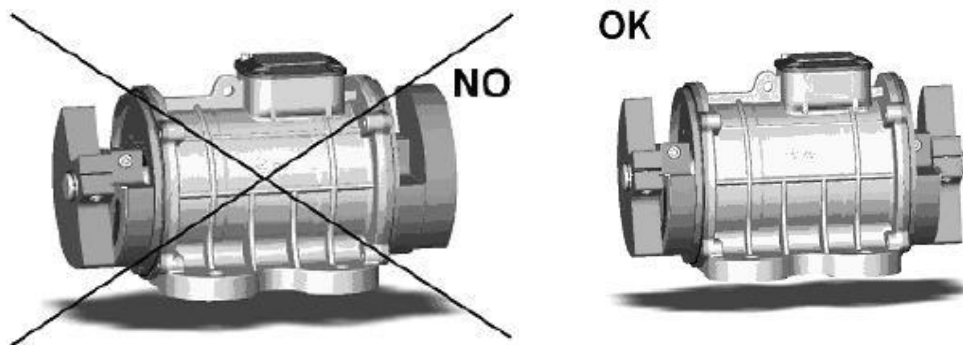

Figure 6-8. Setting sets of masses to mirror images
7. Repeat steps 2 through 5 for second set of weights. Set both sets of weights to same setting number so they are mirror images, as shown in Figure 6-8.